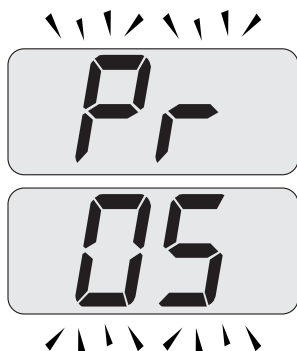

Fig. 8.5
- Scroll the various parameters using keys 10 or 11 until the letters **Pr** that alternate with code **05** are displayed on the LCD display, indicating that "parameter 05" (Fig. 8.5) has been activated.
- Press keys 9 and 10 (Fig. 8.3) at the same time to exit without changing the value (return to the parameters list Fig. 8.5)